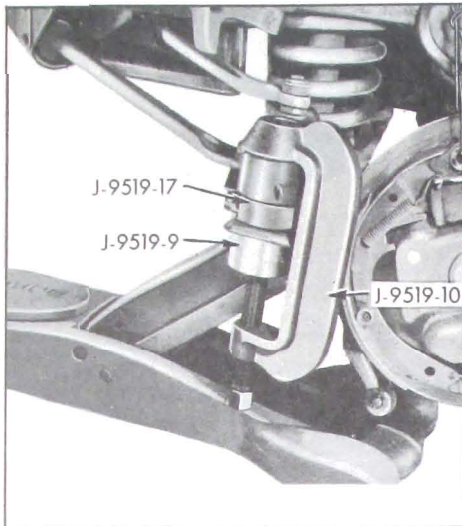

Figure 7-20—Lower Ball Joint Installer Tool in Place - 45, 46, 48000
2. On 45, 46, 48000 Series, position ball joint minus dust shield in lower control arm and install Tool J-9519 as shown in Figure 7-20.